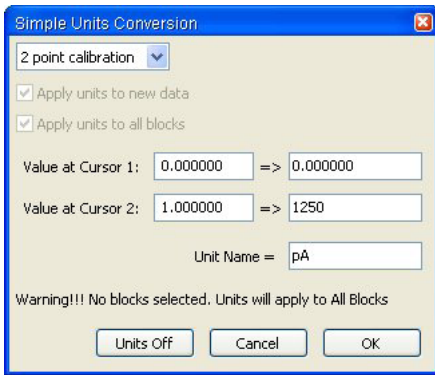

Fig. 41—(Right) Simple Units Conversion dialog box: 5nA conversion example
5. Next, open the **Simple Units Conversion** dialog box (**Fig. 41**) by positioning the mouse over the recorded data of the channel and right clicking. Select **Units** and choose **Simple**.